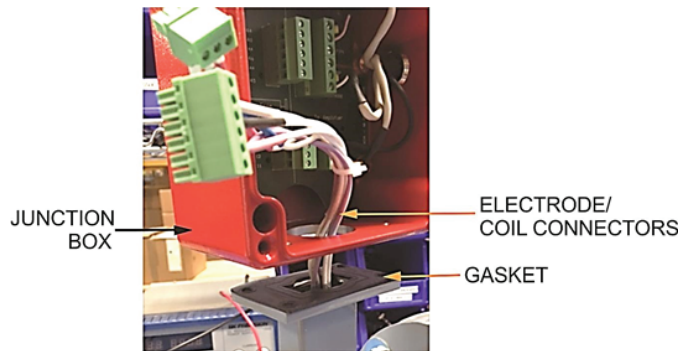

Figure 4: M2000 electrode and coil connectors
6. Thread the *electrode* and *coil* connectors into the junction box. See *Figure 4*.
7. Using the 4 mm or 5/32 in. bit and electric driver, attach the junction box to the detector with the gasket in between. See *Figure 4*. Use the same bolts that were removed when the amplifier and detector were disassembled. Torque the bolts to 4.7 Nm.